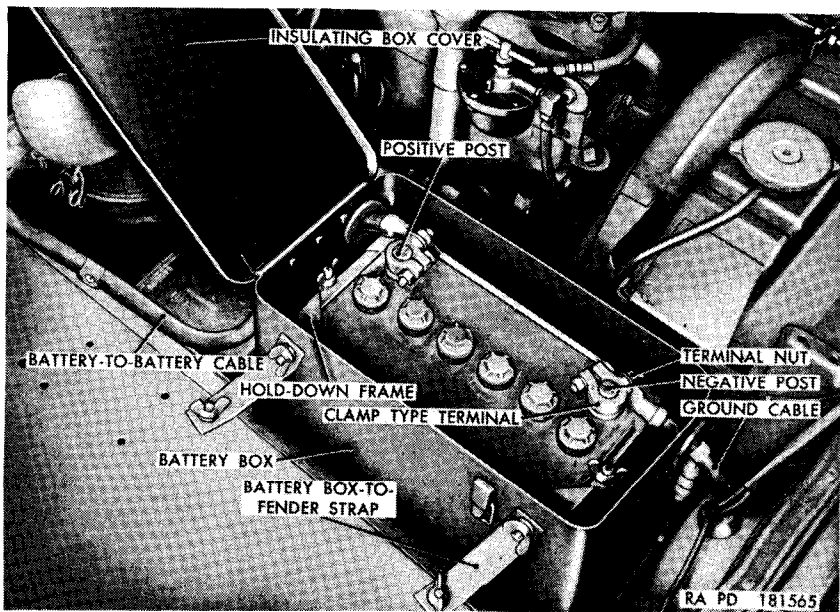
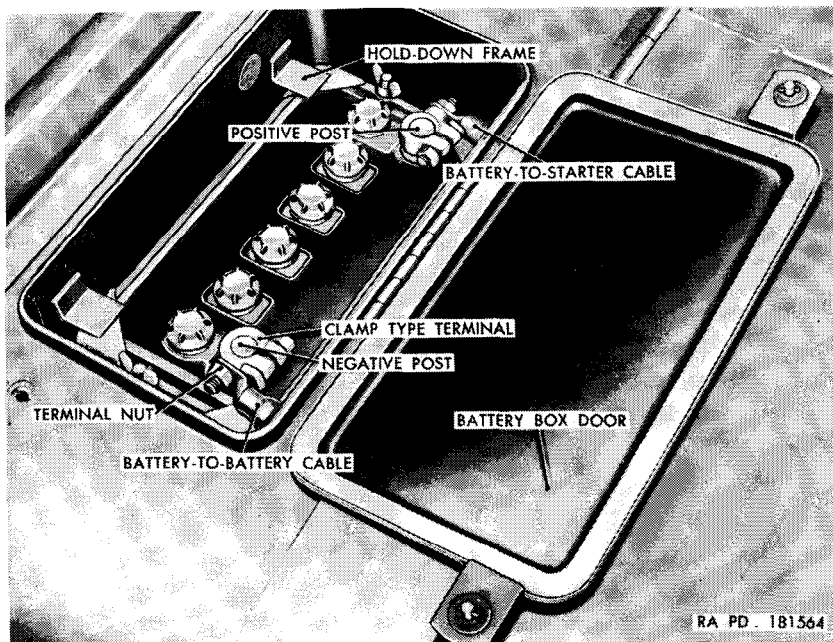

Figure 68. Battery "A" located in engine compartment.
Figure 69. Battery "B" located in cowl.
- (2) *Batteries*. One battery is located in the right side of the cowl (fig. 69) and is accessible through a door on the top of the cowl. The other battery is located in the right side of the engine compartment (fig. 68). Terminals are waterproofed by applying a thick coating of artillery and automotive grease (GAA) after installation.
*a. General.* For purposes of identifying the individual batteries in the procedures given in this paragraph, the battery located in the engine compartment is identified as battery "A" (fig. 68) and the battery located in the cowl is identified as battery "B" (fig. 69).
*c. Battery "A" Removal (fig. 68).*
- (1) Lift and release the ring latches securing the insulating box cover and open the cover.
- (2) Remove the terminal nut and disconnect the ground cable from the clamp-type terminal on the negative post.
- (3) Remove the terminal nut and disconnect the battery-to-battery cable from the clamp-type terminal on the positive post.
- (4) Remove the two wing nuts and flat washers securing the hold-down frame to the battery, and the wing nuts and flat washers securing the battery box-to-fender straps to the battery box and hold-down frame. Remove the box-to-fender strap bolts and remove the hold-down frame.
- (5) Lift the battery straight up and out of the battery box.
*d. Battery "A" Installation (fig. 68).*
- (1) Lower the battery into the battery box, with the battery posts toward the engine side of the box.
- (2) Install the hold-down frame and install the two  $\frac{5}{16}$  x  $\frac{3}{4}$  bolts through the hold-down frame, the battery box, and the battery box-to-fender strap. Secure the hold-down frame and box-to-fender straps with four  $\frac{5}{16}$ -inch plain washers and  $\frac{5}{16}$ -inch wing nuts.
- (3) Connect the battery-to-battery cable to the clamp-type terminal on the positive post, and secure with a  $\frac{3}{8}$ -inch terminal nut.
- (4) Connect the ground cable to the clamp-type terminal on the negative post, and secure with a  $\frac{3}{8}$ -inch terminal nut.
- (5) Check polarity (*g* below).
- (6) Close the insulating box cover and secure with the ring latches.
*e. Battery "B" Removal (fig. 69).*
- (1) Open battery "A" insulating box cover (*c*(1) above).
- (2) Disconnect the ground cable from battery "A" (*c*(2) above).
- (3) Turn the wing nuts securing the battery box door one-quarter turn and open the door.
- (4) Remove the terminal nut and disconnect the battery-to-battery cable from the clamp-type terminal on the negative post.
- (5) Remove the terminal nut and disconnect the battery-to-starter cable from the clamp-type terminal on the positive post.
- (6) Remove two wing nuts securing the hold-down frame and remove the frame.
- (7) Remove the battery (c(5) above).
*f. Battery "B" Installation (fig. 69).*
- (1) Lower the battery into the cowl (see Note in *d*(1) above).
- (2) Install the hold-down frame and secure with two  $\frac{5}{16}$ -inch wing nuts.
- (3) Connect the battery-to-starter cable to the clamp-type terminal on the positive post and secure with a  $\frac{3}{8}$ -inch terminal nut.
- (4) Connect the battery-to-battery cable to the clamp-type terminal on the negative post and secure with a  $\frac{3}{8}$ -inch terminal nut.
- (5) Close the battery box door and secure by turning the wing nuts one-quarter turn.
- (6) Connect the ground cable to battery "A" (*d*(4) above).